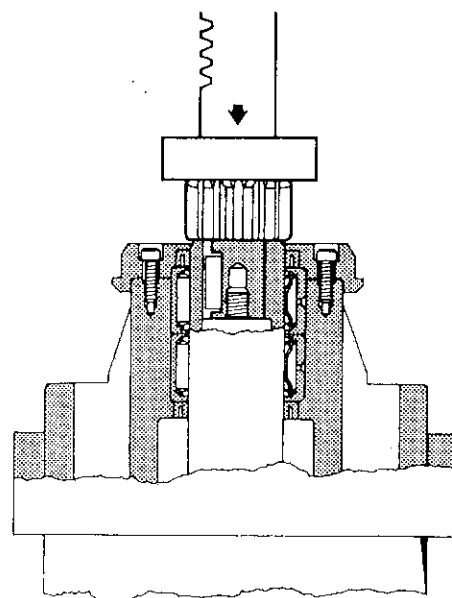

Figure 5.28
29. Press the drive pinion (47) into the facet drive shaft as shown in Figure 5.28.